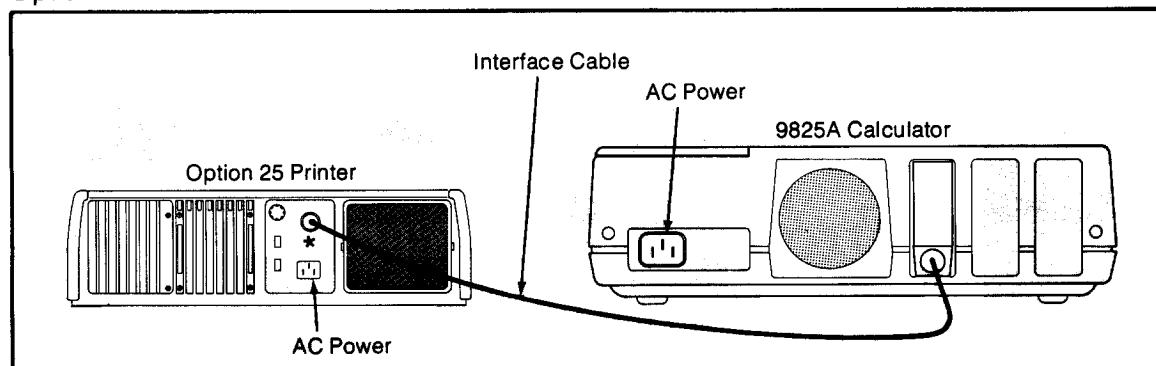

Figure 2. Printer Interface Typical Connections
4. If you are using the printer with a 9800-Series Calculator, connect the interface cable as shown in Figure 2. If the printer is not to be used with a 9800-Series Calculator, refer to the interfacing information in the service manual (HP Part No. 09866-90031) supplied with the printer.
Since all calculator peripheral devices are connected in a "party-line" fashion, each device must have a unique 'address' so that the calculator can specify which device should respond to each operation. The printer address (or select code) consists of a one or two-digit number and is determined by the circuits on the interface card (see Figure 2). Each calculator-to-printer command must include the correct select code, there-by specifying which interface card is to respond to which operation. The following paragraphs describe select code settings with each option printer.